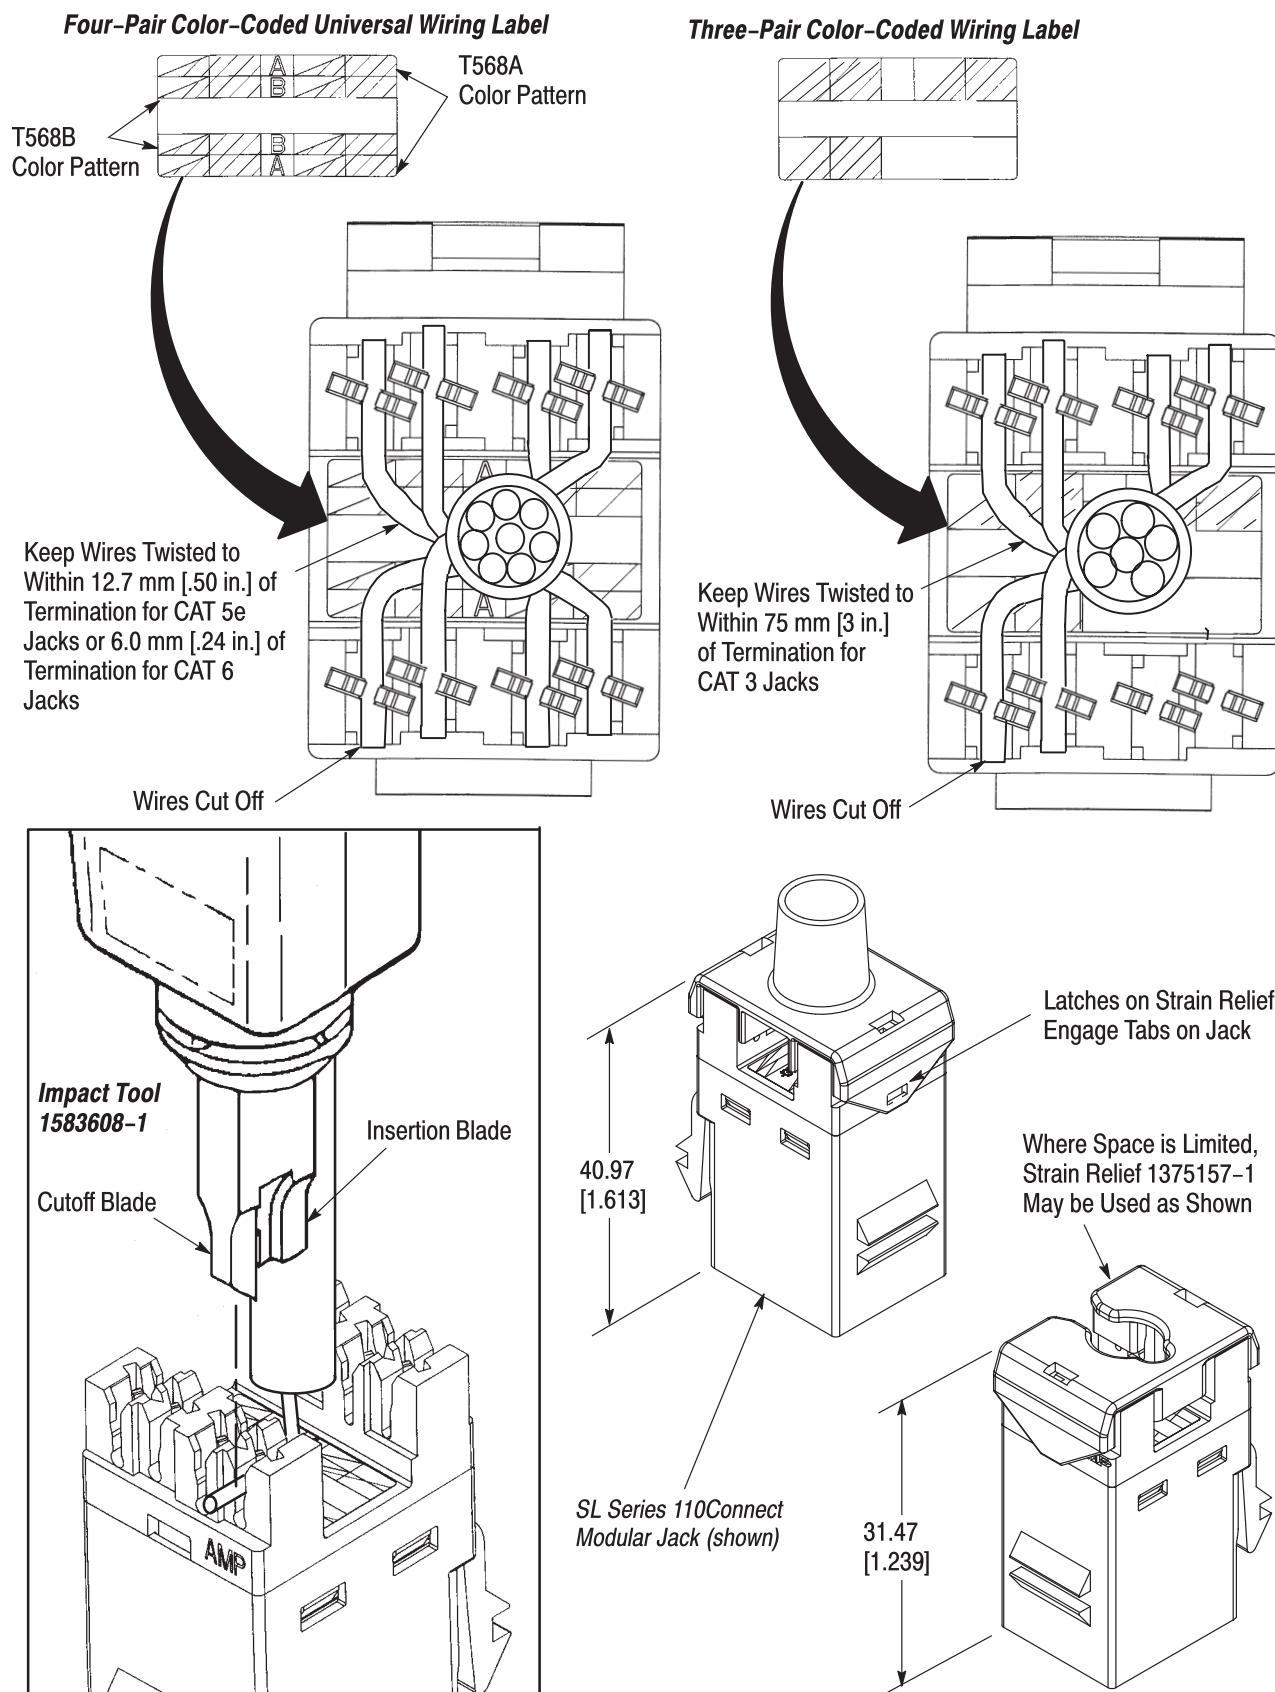

Figure 3
2. Align and lace a color-coded wire pair with the appropriate slots as indicated by the color coding on the wiring label (use minimum slack while maintaining twist, as indicated in Figure 3).
5. Slide bend-limiting strain relief (if used) onto jack. Latches on strain relief will engage tabs on rear of jack as indicated in Figure 3.
- Deleted old and superceded part numbers in NOTE in Paragraph 3.2 and Figure 3